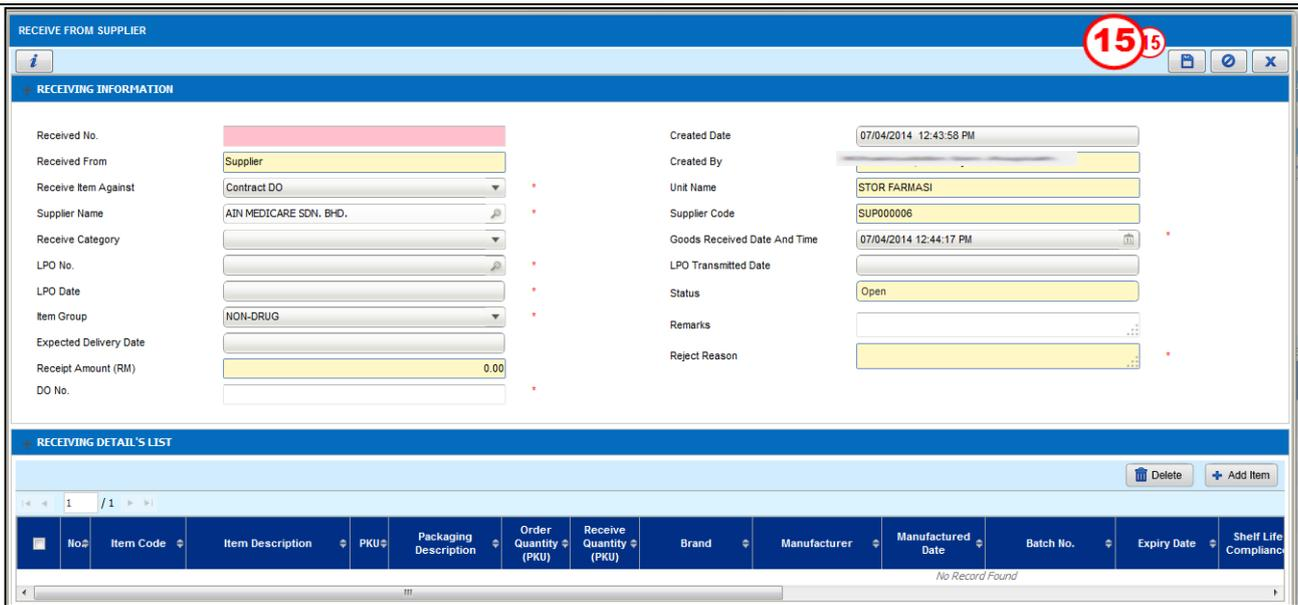

Figure 4.1.6-8 Save Receive from Supplier record
- System will display an alert message as displayed in Figure 4.1.6-10.